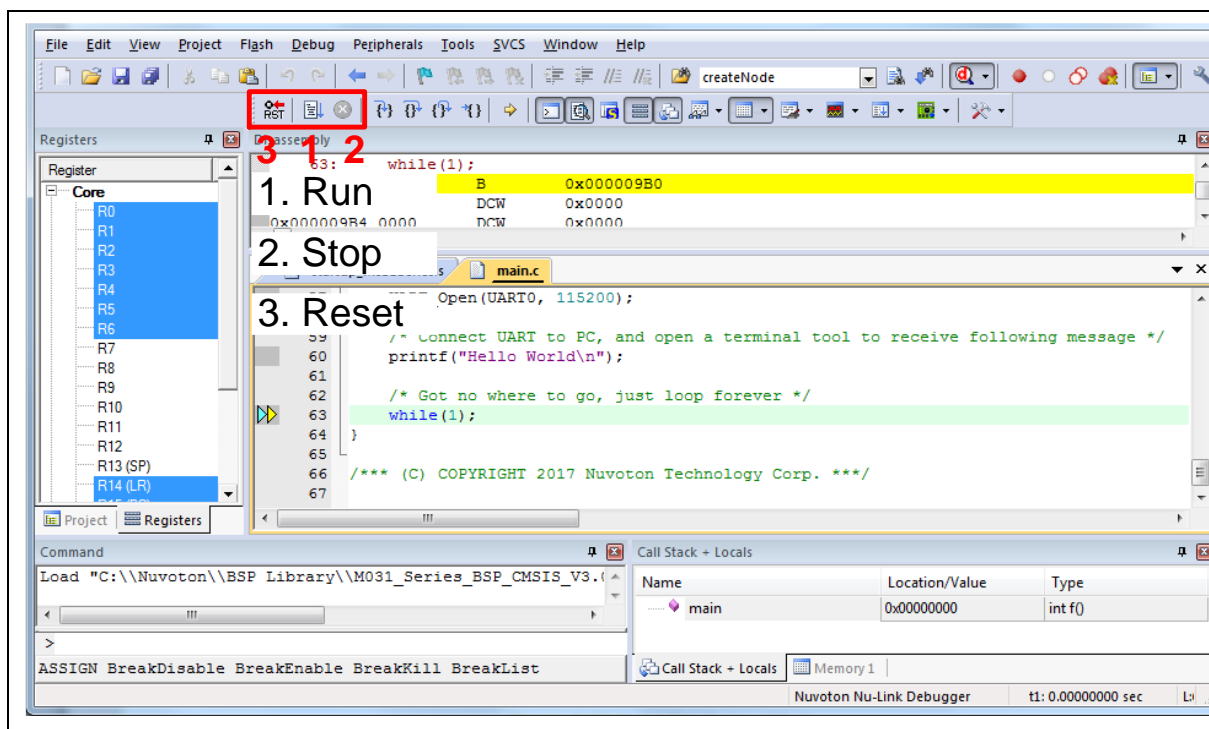
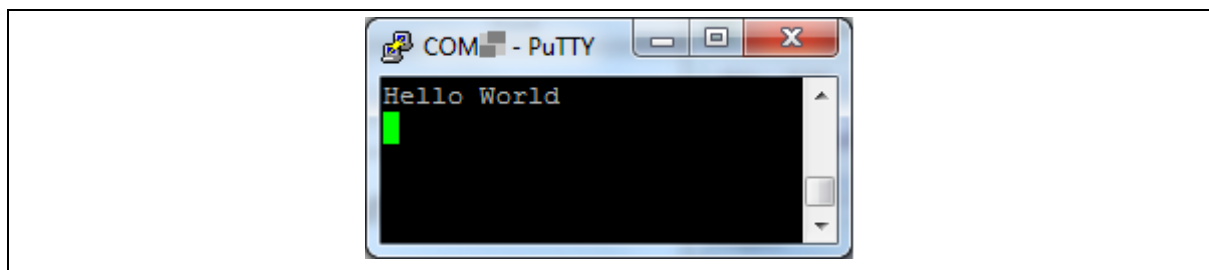

Figure 3.6-5 Keil MDK Debug Mode
Figure 3.6-6 Debug Message on Serial Port Terminal Windows
3. Figure 3.6-5 shows the debug mode under Keil MDK. Click “Run” and the debug message will be printed out as shown in Figure 3.6-6. User can debug the project under debug mode by checking